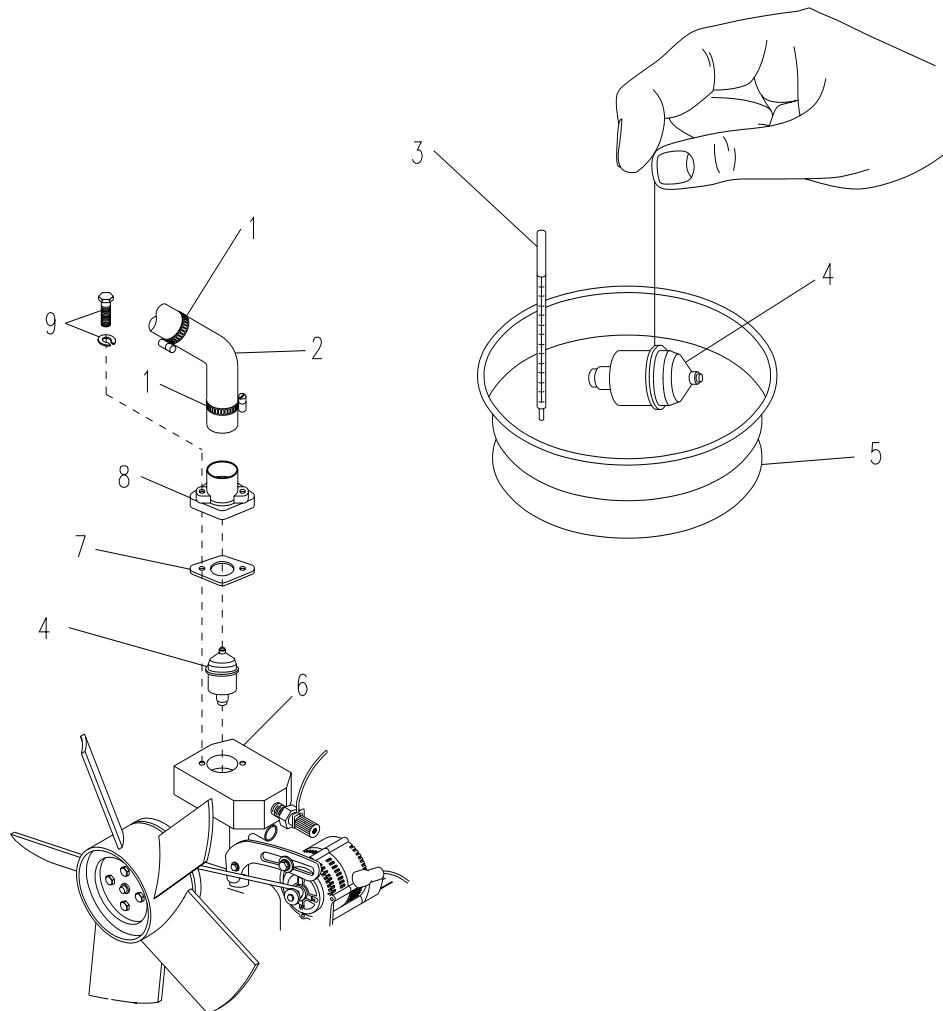

Figure 4-9. Thermostat
- b. Suspend thermostat (4, Figure 4-9) by a string with one end of string inserted between the valve and seat.
- c. Immerse the thermostat (4) in a pan of water (5).
- d. Heat the water gradually and read the temperature on the thermometer (3) when the valve opens making the thermostat fall off the string. The valve should open between 157.1°F and 162.5°F (69.5°C and 72.5°C).